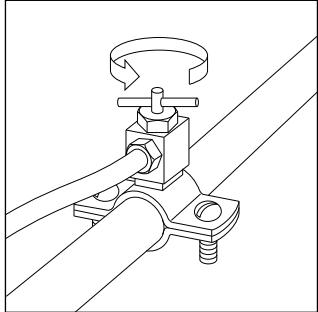

Fig. 4—Saddle Valve
- Open the saddle valve on the water supply line. (See Fig. 4.) Set humidistat to the desired relative humidity. (See Fig. 5 and Table 2.)
2. Turn off the humidifier's water supply. (See Fig. 4.)